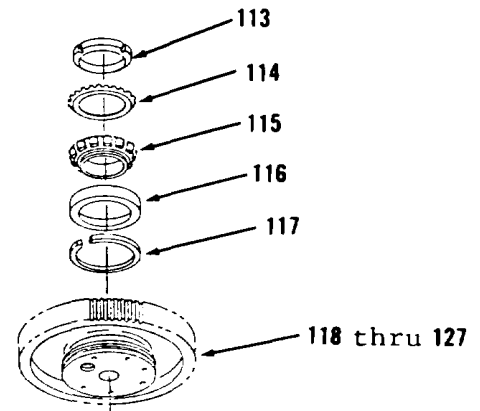

Figure 14-70.
57. Using spanner socket, remove bearing lock nut (113, Figure 14-70).
58. Remove lock nut (114), roller bearing (115) and roller bearing cup (116).
59. Using screwdriver, remove ring (117).
60. Remove items 118 thru 127 as an assembly.